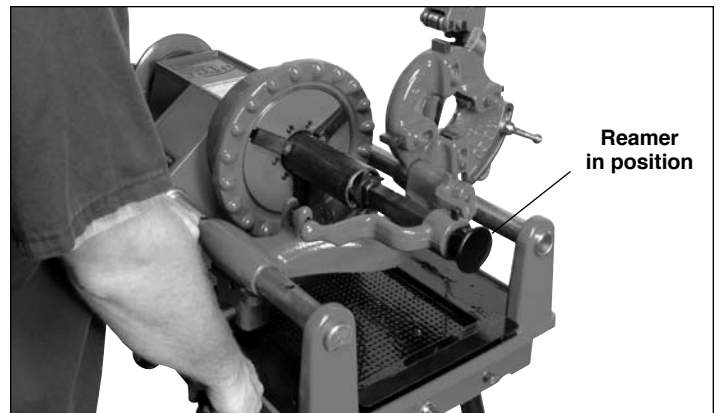

Figure 3
1. Swing die head and cutter back to out-of-the-way position (Figure 3).